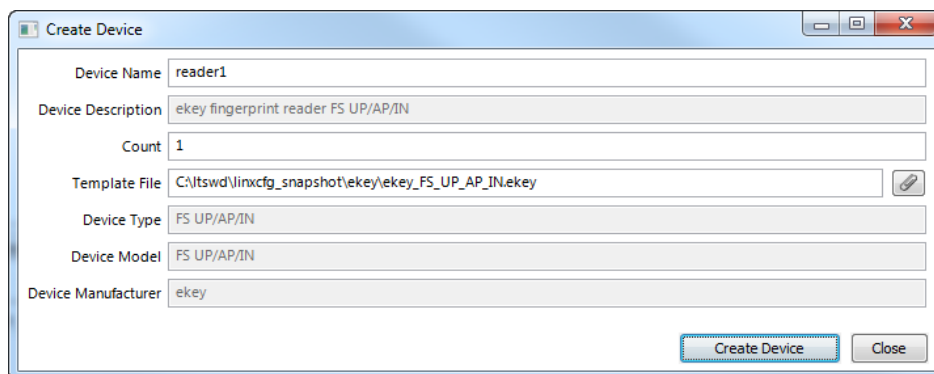

Figure 180: ekey fingerprint reader device creation dialog
3. In the **Create Device** dialog enter a **Device Name** and a **Count** of devices to be created as shown in Figure 180.